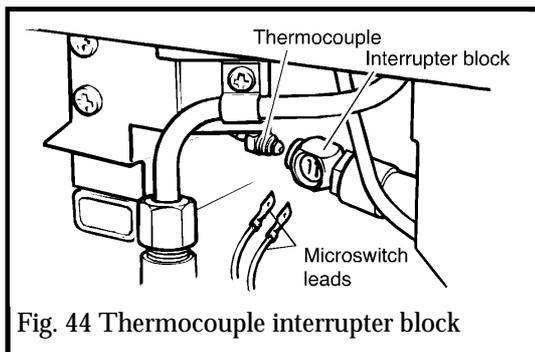

Fig. 44 Thermocouple interrupter block
13.7 To remove the thermocouple interrupter block (see figure 44)